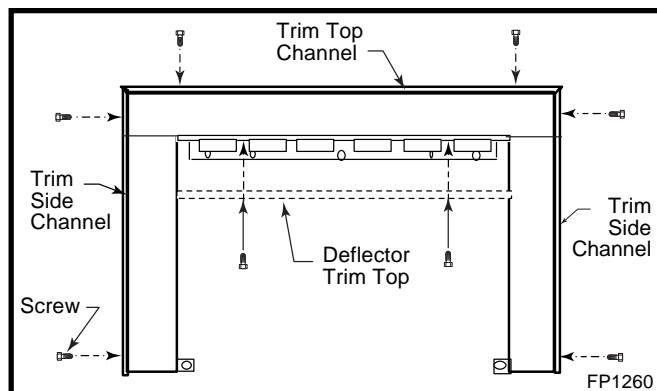

Fig. 40 Install trim channels and trim top deflector.
RHES, RHESL and RHESXL (Fig. 40)
1. Install trim channels (left and right sides). Use two (2) screws to assemble each piece.
3. Install the trim top deflector and use two (2) screws to fasten it. (Fig. 40 & 41)